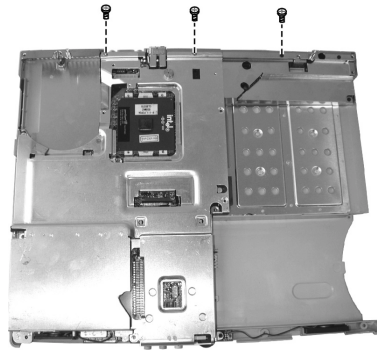

Figure 2-24
7. Remove three screws from the base. (Figure 2-24)